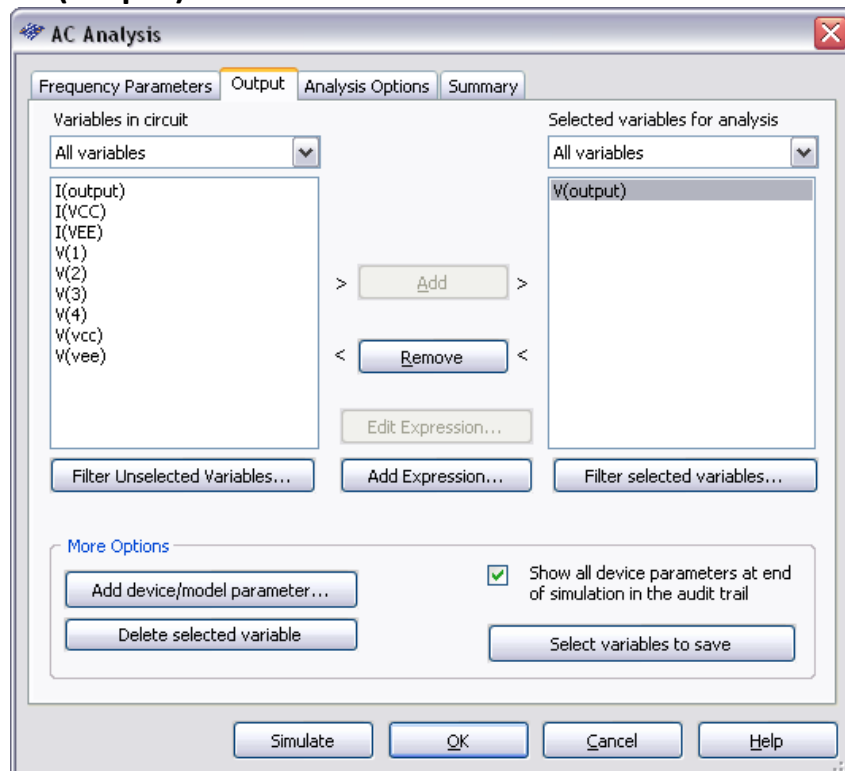

Figure E2-14. AC Analysis Output Tab
4. Select the Output tab and set up the SPICE simulation to perform an AC Analysis at the output of the band-pass filter (as seen in Figure E2-14)